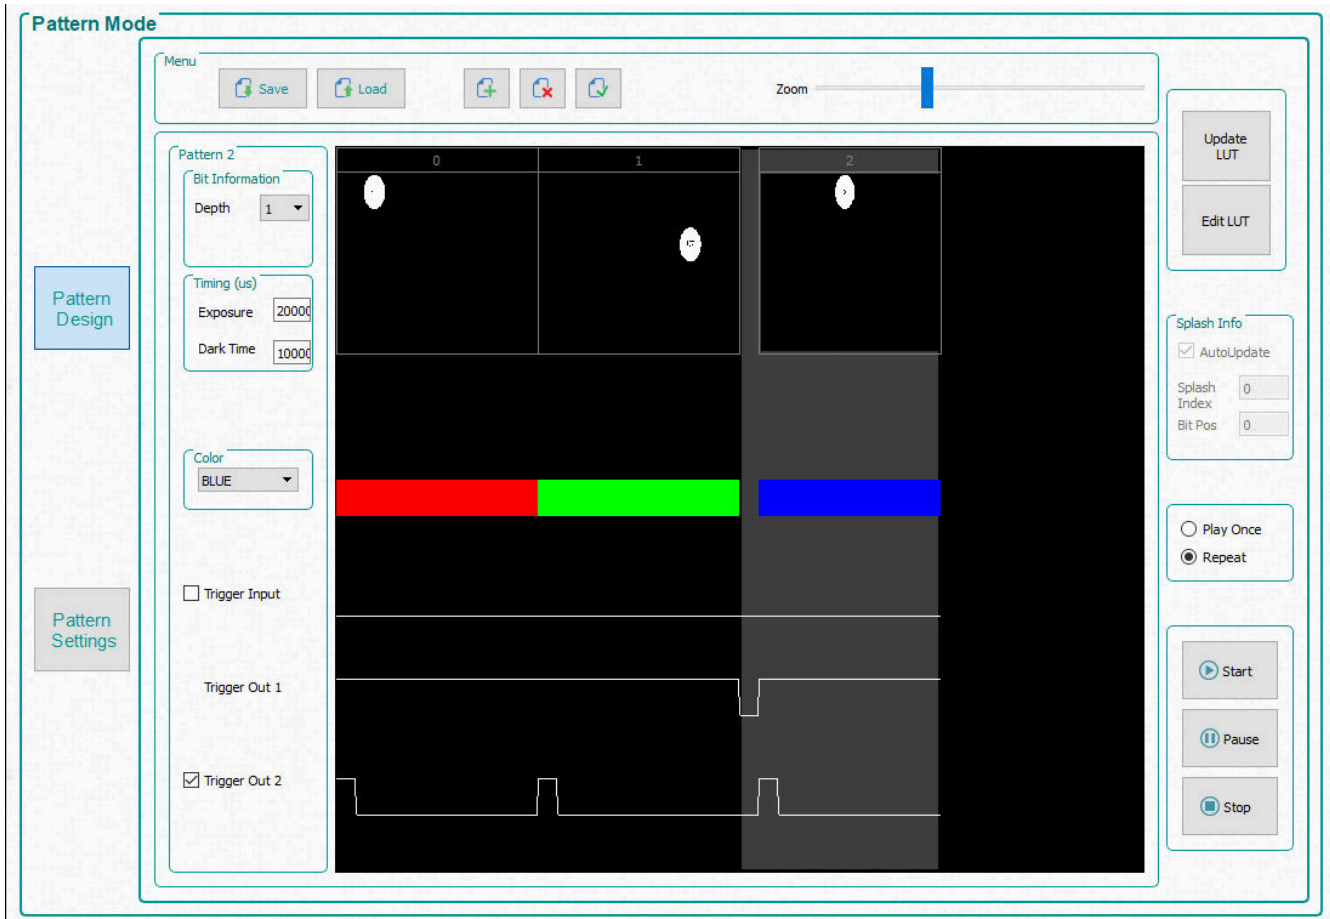

Figure 2-2. Simple Three Pattern Sequence
5. Select the third pattern and choose a bit depth of 1. Set exposure to 200000 μ s, dark time to 100000 μ s, and select **Blue** for the color. Figure 2-2 shows the pattern sequence.